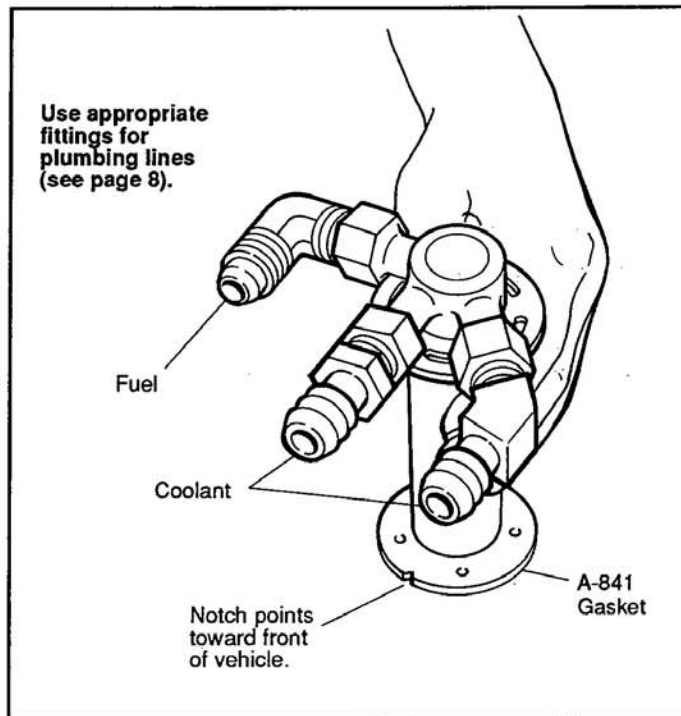

Fig. 12
21. Insert the Warmer partway into the tank opening, in the same orientation determined in Step 18. See Fig. 12.